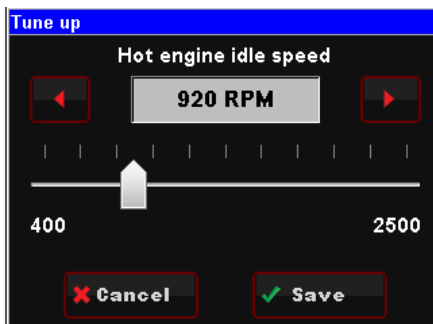

Figure 14 – Slider Bar
**Slider Bar:** Slide the bar left or right with the stylus, or use the right and left arrow keys for fine adjustment (**Figure 14**).